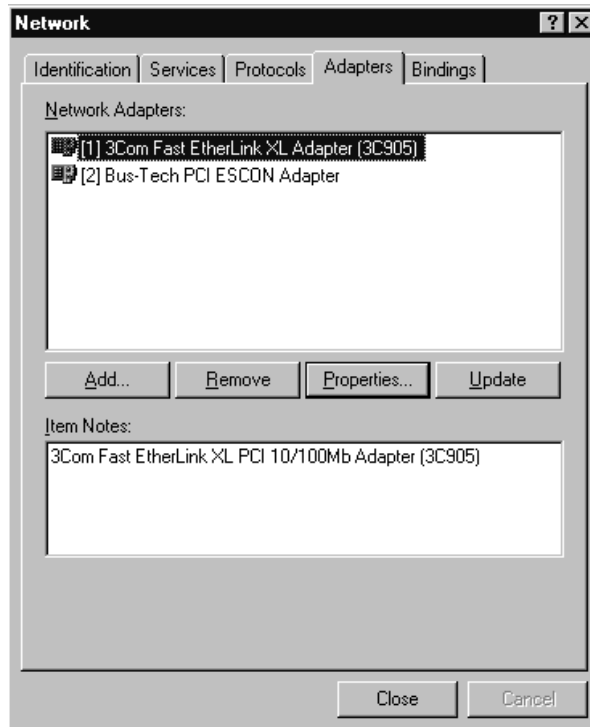

Figure 5-12. Adapter List with ESCON Adapter
2. Click on the Adapters tab (Figure 5-12). Make sure the adapter is listed. If not, you must install the adapter before installing TCP/IP Direct Connect (Refer to Page 8).